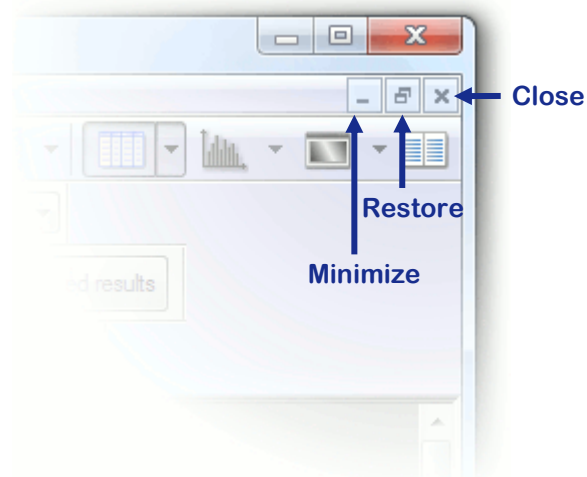

Fig.4.14c. Buttons for minimizing, restoring and closing of a maximized View sub-window.
- To maximize a sub-window, press the  button. A maximized sub-window fills the whole working area, hiding all other sub-windows. When a sub-window is maximized, the *Minimize / Restore / Close* buttons are moved to the SvanPC++ menu bar, as shown in Fig.4.14c.